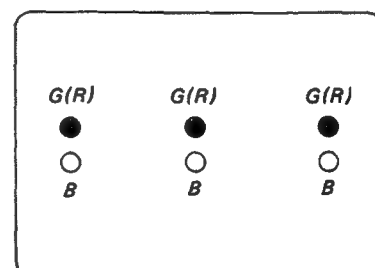

Fig. 3-10.
2. If the blue dot does not converge with the green and red dots at the centre of the screen, adjust the vertical magnetic convergence control (VMC) as necessary. See Fig. 3-10.